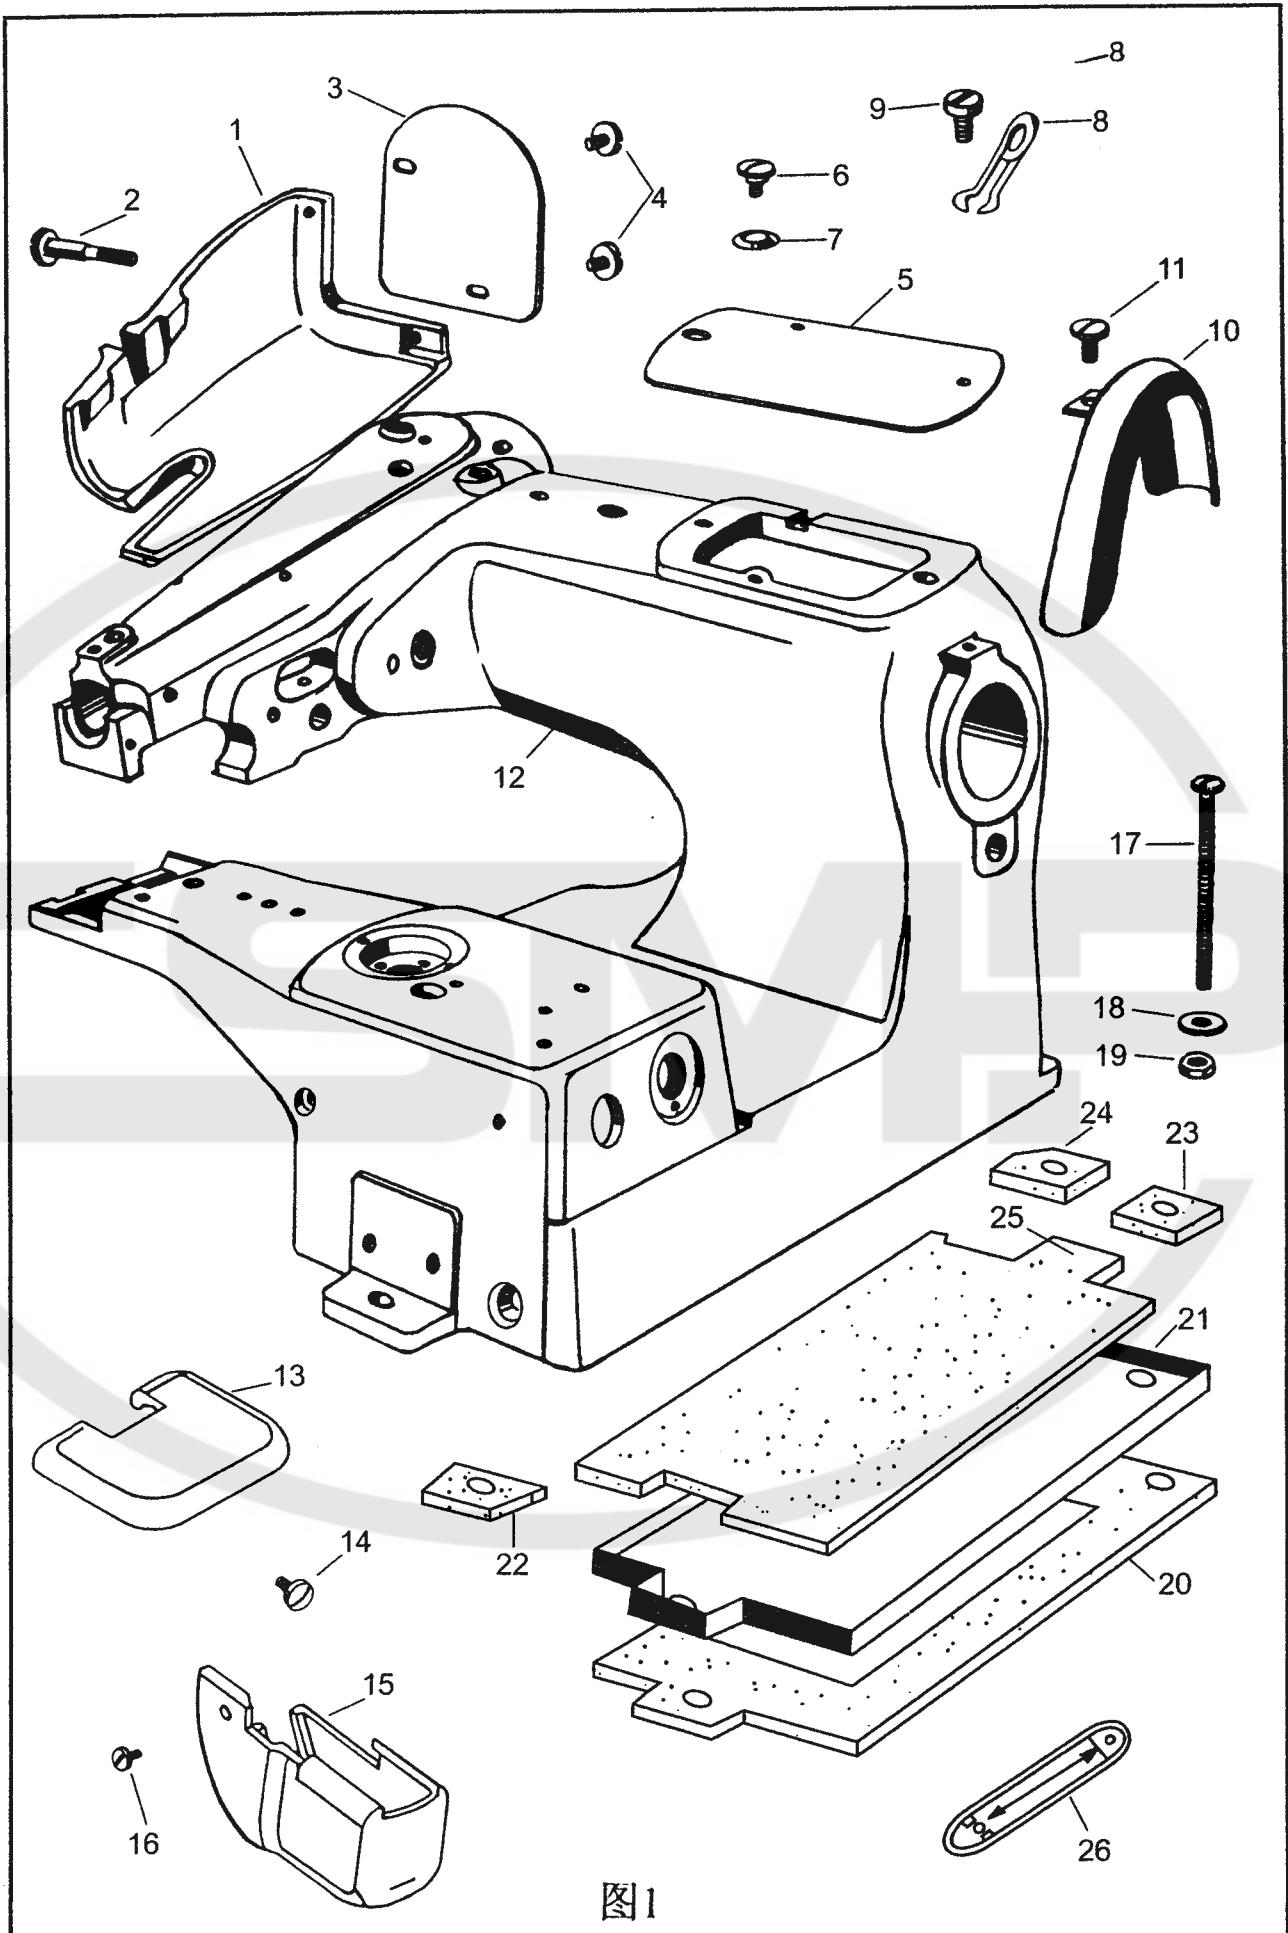

图1
Notice:The distance between small pulley and workplate should be about 60mm.(Fig.1).
3.Lining cloth is installed on the big bulley.(Fig.1)Clamp the front part of the lining cloth with the clamp.Then above the main material.(Fig.6)